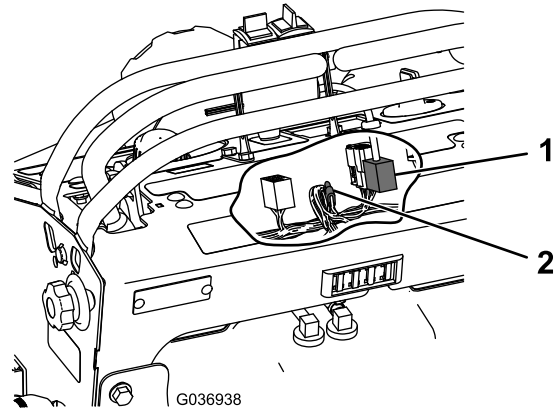

Figure 8
- Route the BOSS hydraulic-manifold wire harness over the fuel tank and connect it to the auxiliary-power connector on the wire harness of the machine (Figure 8).
- Connect the BOSS hydraulic-manifold wire harness to the controller connector (Figure 8).